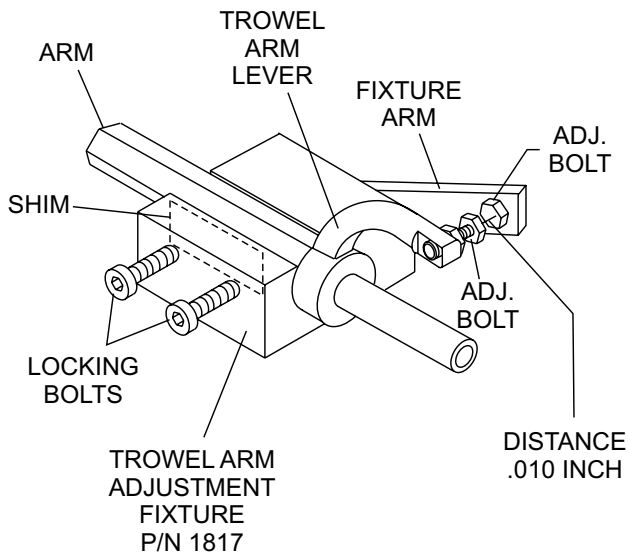

Figure 44. Trowel Arm Adjustment Fixture Components
3. Unscrew the locking bolts on the adjustment tool and place the trowel arm into the fixture channel as shown in Figure 44. A thin shim may be required to cover the blade holes on the trowel arm. Make sure to align the trowel adjustment bolt with the fixture adjustment bolt.